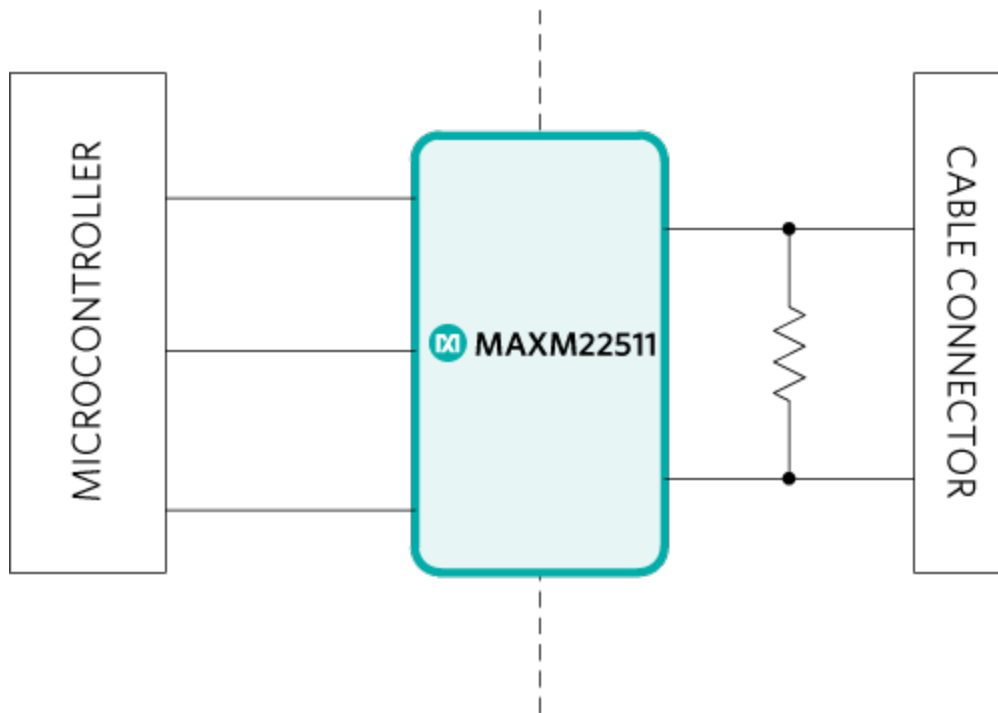

Figure 3. Fully integrated RS-485/RS-422 with the MAXM22511.
**The Final Frontier: Fully Integrated Module** Maxim's most recent robust communication device, the MAXM22511, is a fully integrated, isolated RS-485/RS-422, full-duplex, transceiver module. This transceiver requires no external components and builds on Maxim's proven leadership in RS-485, pairing communication and power for the smallest robust high-performance communication solution available (Figure 3).